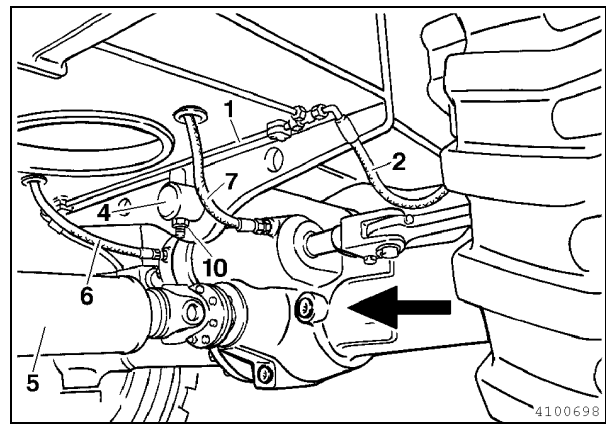

Fig. 4
- Loosen hex screw (10, Fig. 4).
- Drive out floating pin (4, Fig. 4 + 6).
Make sure the marker arrows on the outer and inner part point exactly towards each other. (Fig. 4).